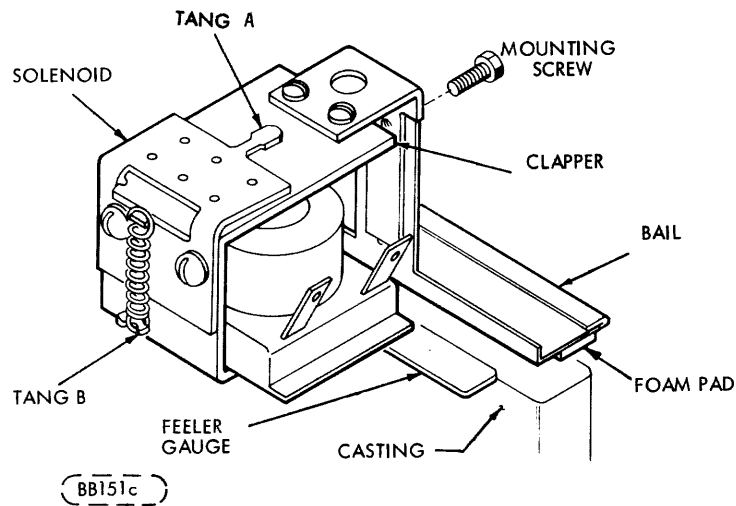

FIGURE 6-10. DISK LOAD SOLENOID
- c. Loosen mounting screw on bail (Figure 6-10).
- a. Place the tapered end of a flat-head screw driver between Tang A and solenoid clapper. (See Figure 6-10.)
- m. If not, bend the lower tang B, Figure 6-10, downward gently.